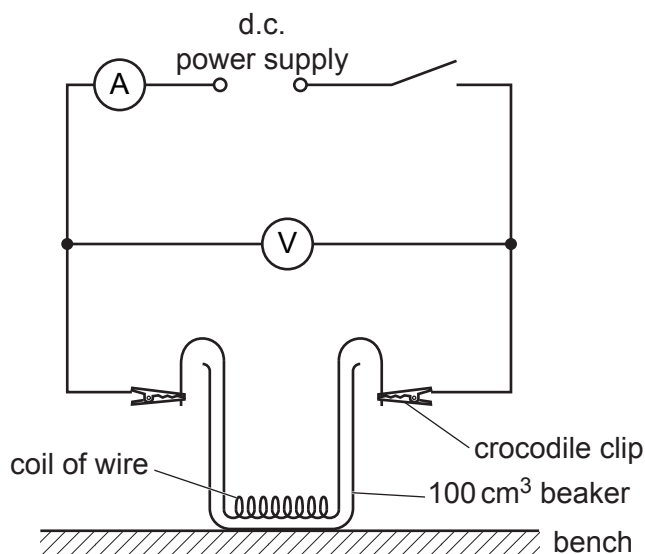

Fig. 1.1
- 6 connecting wires to enable the supervisor to set up the circuit shown in Fig. 1.1
1. The power supply should be able to deliver a current of just under 1.5A. If a variable supply is used, the control dial should be fixed to deliver 1.5A to the circuit shown in Fig. 1.1, and the dial taped over by the supervisor to prevent any adjustment by the candidate.
The wire should be wound around a pencil to form a coil of approximate diameter 0.7 cm, which should then be placed at the bottom of the beaker with the two ends protruding over the sides of the beaker as shown in Fig. 1.1. The turns of the coil **must not** touch each other.
The supervisor should check that the circuit is set up as in Fig. 1.1 with the switch open. Water in the 100 cm^3 beaker should be discarded. The supervisor should ensure that there is sufficient water (at least 100 cm^3) at room temperature for the next candidate and that the turns of the coil are not touching each other. If dry cells are used as a power source, these will need to be replaced.